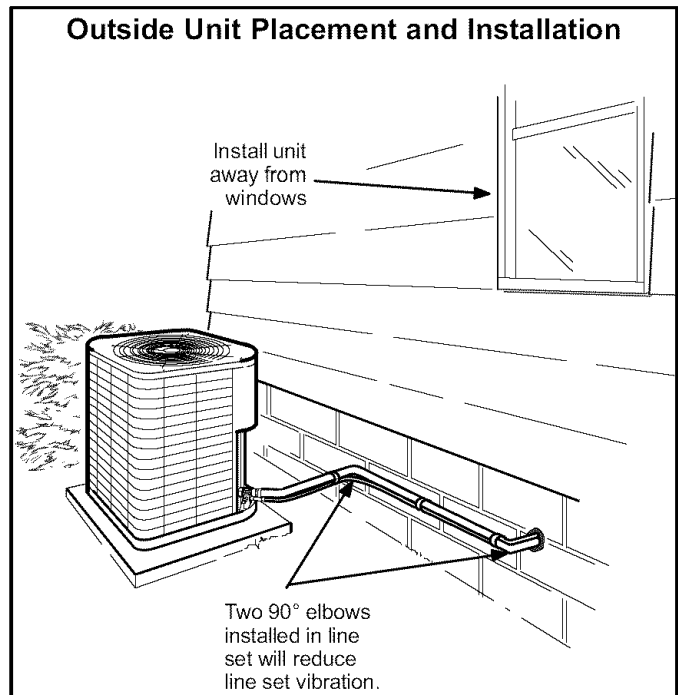

Figure 4
1. **Placement** - Be aware some localities are adopting sound ordinances based on how noisy the unit is from the adjacent property not at the original installation. Install the unit as far as possible from the property line. When possible, do not install the unit directly outside a window. Glass has a very high level of sound transmission. Figure 4 shows how to place the outdoor unit and line set.